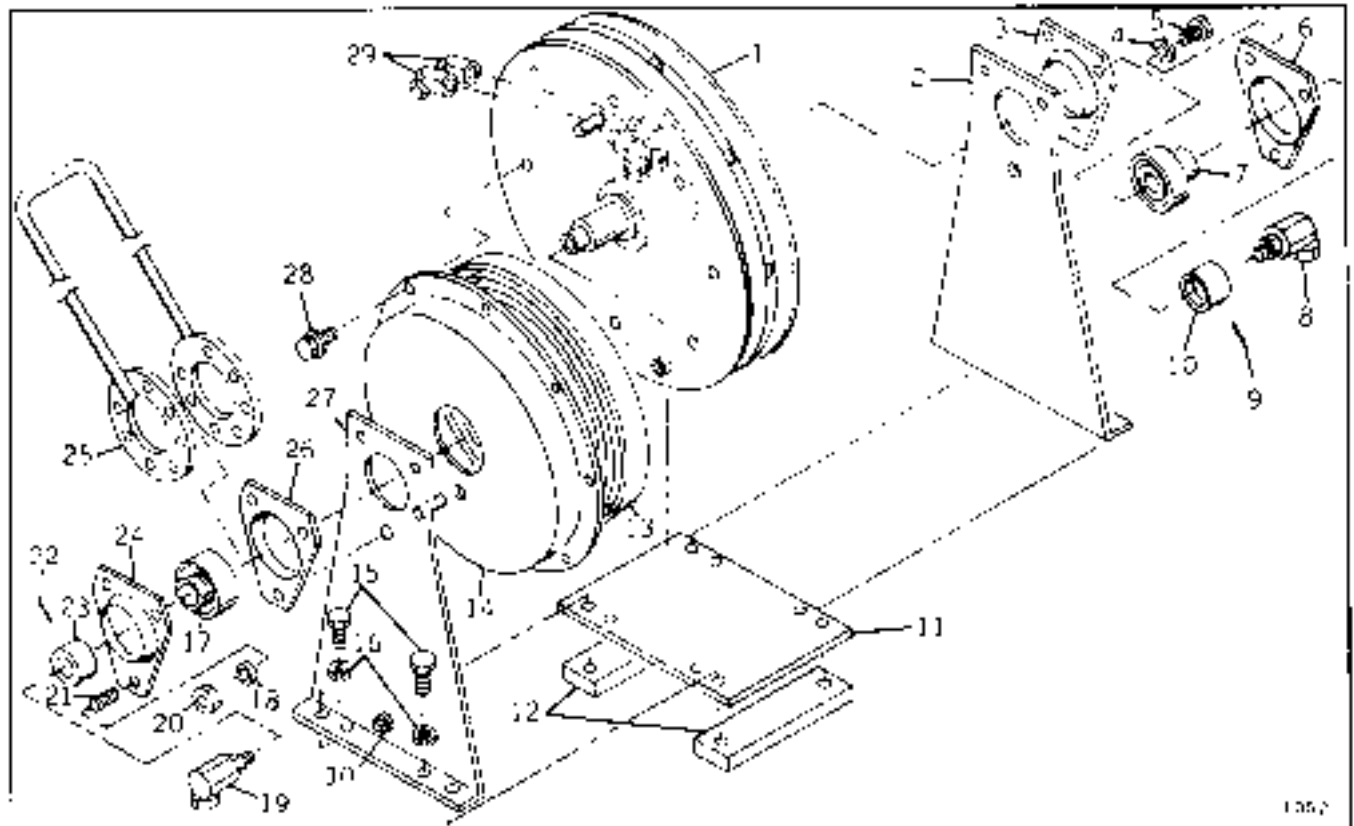

Figure 3-28. Hose Reel Assembly
HOSE REEL (Refer to Figure 3-28.)
3. Remove bolts (15, Figure 3-28) and washers (16) securing hose reel to turntable; remove hose reel.